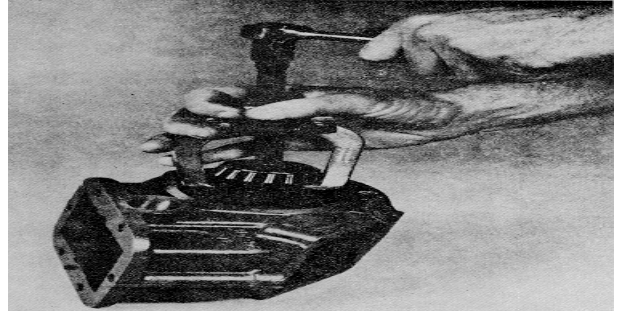

Figure 11B-8. Removing Bearing
2. Install shaft (02) through gear (04). Install spacer (06) and snap ring (22). See Figures 11B-12 and 11B-13.